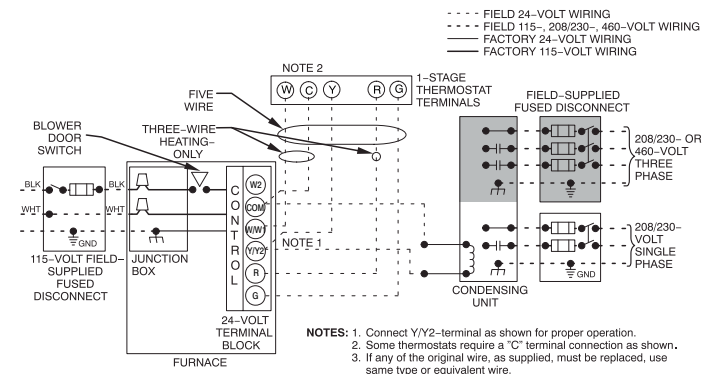

Fig. 33 – Typical Two-Stage Field Wiring Diagram
See Fig. 33 for field wiring diagram showing typical field 115-v wiring. Check all factory and field electrical connections for tightness.
6. Connect power cord power and neutral leads to furnace power leads as shown in Fig. 33.
5. Connect field power and neutral leads to furnace power leads, as shown in Fig. 33.